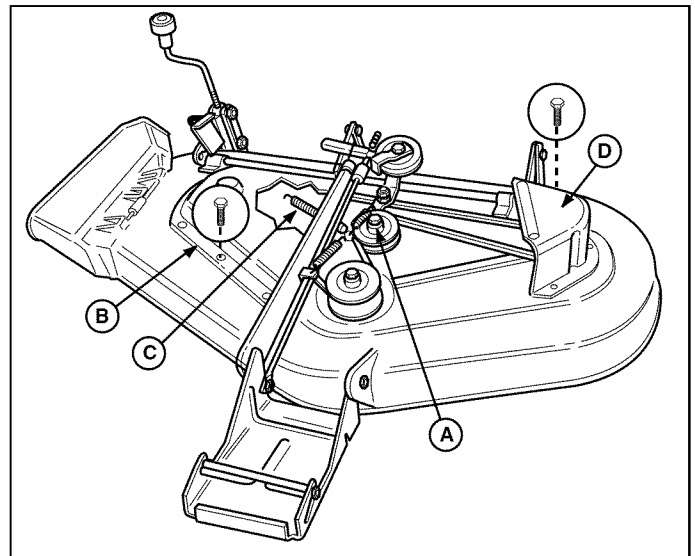

Figure 54. Mower Deck - 44" & 50" Mowers
4. See Figure 54. Remove three capscrews securing left-hand arbor cover (D).
7. See Figure 54. Reinstall the left-hand arbor cover (D). Reinstall the mower deck if removed.